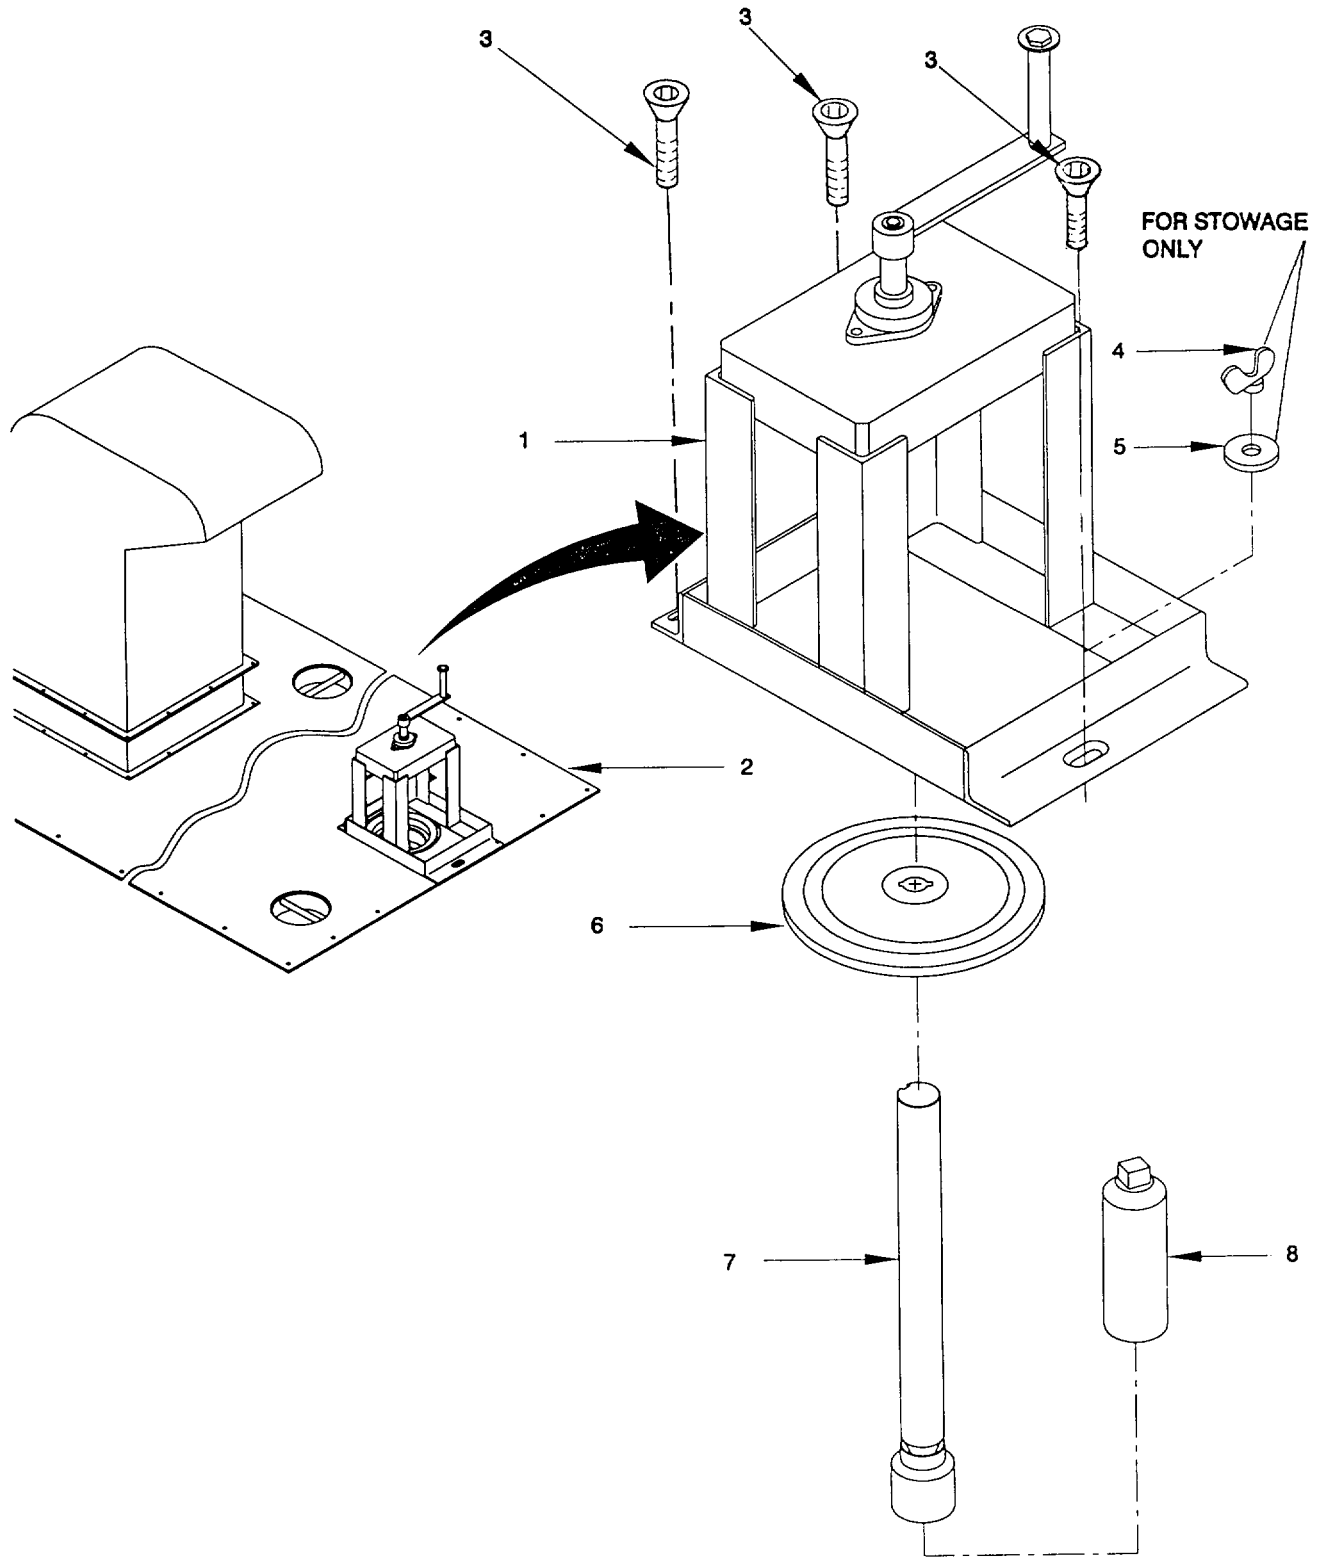

Figure 2-83. Emergency Steering Unit, Remove/Install.
a. Remove. (figure 2-83) (Removal from use - not from stowed position)
- (1) Remove three hatch deck flat head screws (3) to free emergency steering unit (1) from pump-jet/thruster hatch (2) Remove unit (1). Replace three flathead screws (3) for storage.
- (2) Secure unit (1) in stowed position located in lazaret compartment with washers (4) and nuts (5).
- (3) Replace emergency steering hatch cover (6) to pump-jet/thruster hatch (2) and secure with T-wrench.
b. Service. (figure 2-83)
- (1) Grease bearing flange.
c. Install. (figure 2-83)
- (1) Remove three screws and nuts to allow removal of emergency steering hatch (6) from pump-jet/thruster hatch (2) using T-wrench.
- (2) Remove emergency steering unit (1) from lazaret compartment by removing three washers (4) and hatch deck nuts (5) from their storage position in unit. Install washers (4) and hatch deck nuts (5) in unit.
Integrity Test Set-up (Figure 2-83 or equivalent)